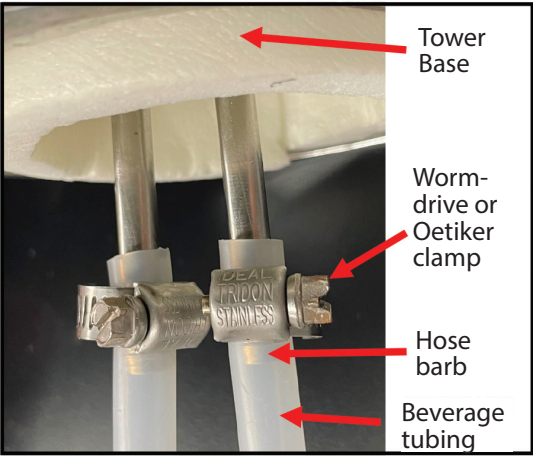

Fig. 13
5. Position and tighten the worm-drive or Oetiker clamp(s) to compress beverage lines onto the hose barb (*Fig. 13*).